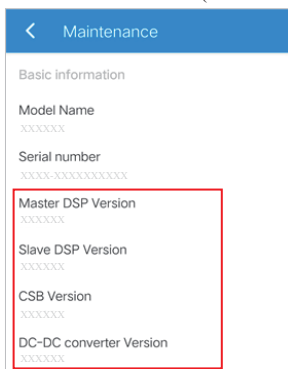
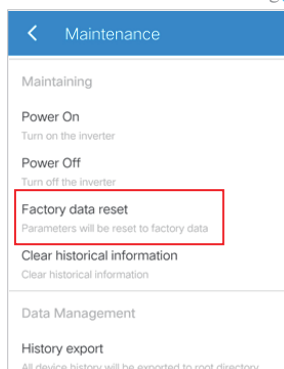

Figure 4-1 Basic information
Figure 4-2 Maintaining
2. Make sure all inverters in parallel have the same firmware version by verifying the 'DSP', 'CSB', and 'DC-DC converter' version numbers on App, as shown in *Figure 4-1*. It is recommended to restore the firmware before three-phase connection to ensure the same parameter for each inverter, as shown in *Figure 4-2*.